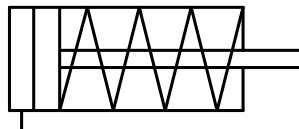

FIG 10.
D. The symbol for a single-acting cylinder returned by spring force is shown in Fig 10.